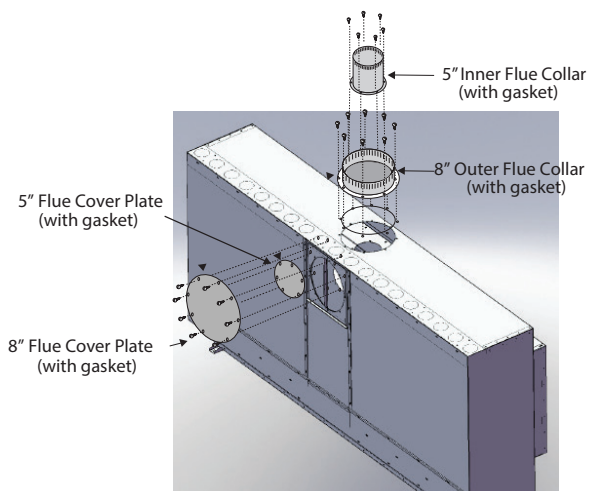

Figure 7. Flue cover and collar removal, Top Vented fireplace
1. Remove the Rear flue cover with gasket (5" and 8") on the flue outlet, as shown in **Figure 7**. **ENSURE YOU DO NOT DAMAGE THE FIBRE GASKETS.**
2. Remove the Top flue collar (5" and 8") on the flue outlet, as shown in **Figure 7**. **ENSURE YOU DO NOT DAMAGE THE FIBRE GASKETS.**